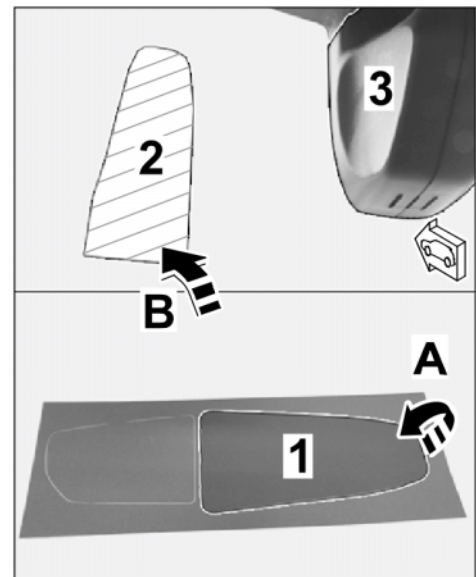

Figure 8
2.2.1 Pull 3M privacy film off the backing sheet (⇒ *Figure 8 -A-*).
2.2.2 Position 3M privacy film on the marked bonding surface on the windscreen (⇒ *Figure 8 -B-*) and stick it.